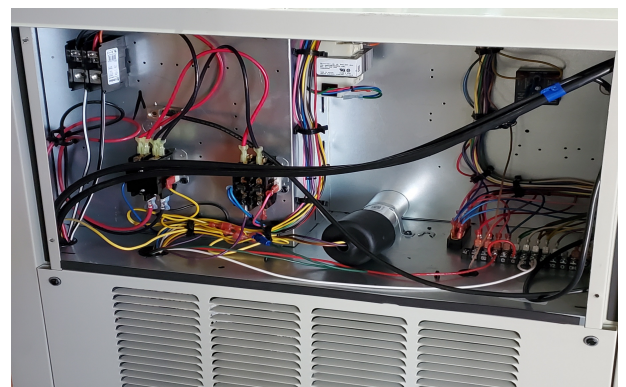

Fig. 2. Unit control compartment.
4. **Low voltage control connections.** Connect the low voltage control wires from heater control plate to the matching polarized plug located inside the unit control compartment (see fig. 2).